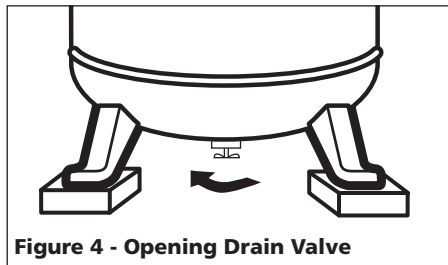

Figure 4 - Opening Drain Valve
1. Open drain valve completely and run the compressor for 60 minutes (See Figure 4).
Drain Tank (See Figure 4)	●